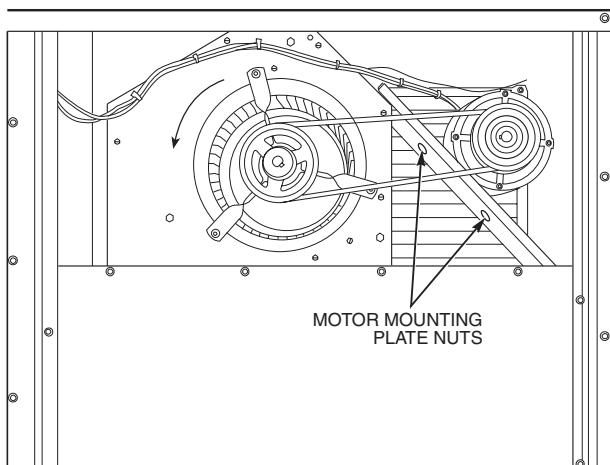

Fig. 38 — Typical Belt-Drive Motor Mounting for Size 008 and 009
2. Loosen the belt by loosening the fan motor mounting nuts. See Fig. 38 and 39.
2. *Sizes 008 and 009* — Slide the motor mounting plate away from the fan scroll for proper belt tension ($1\frac{1}{2}$ -in. deflection with 5 to 10 lb of force) and tighten the mounting nuts (see Fig. 38).